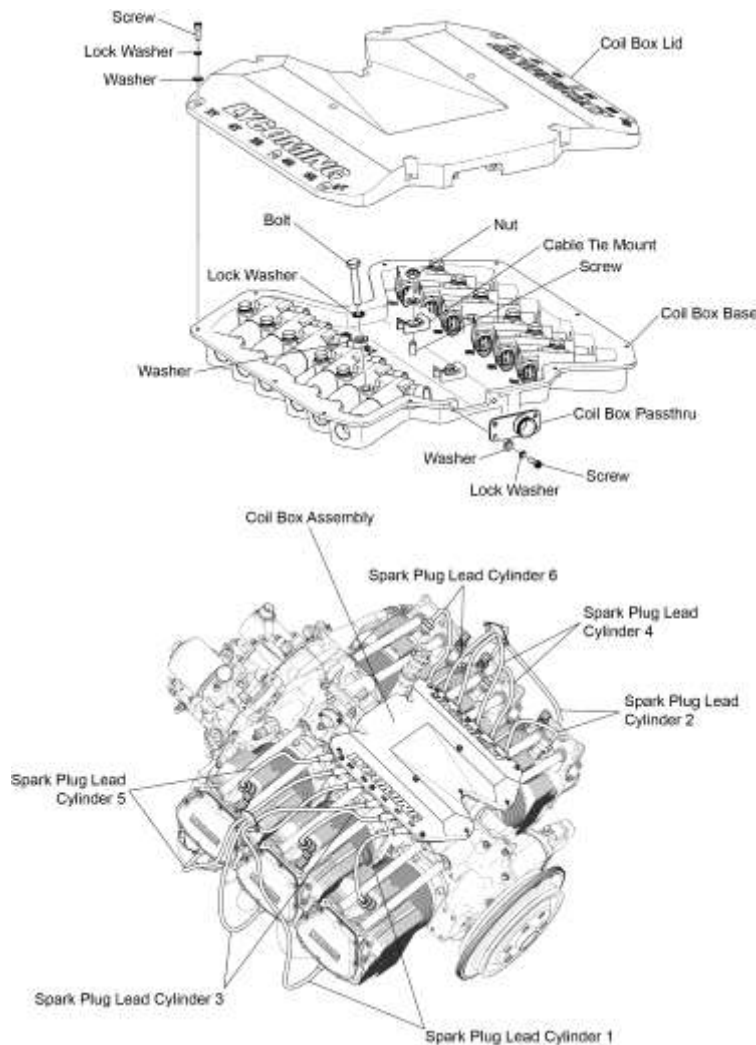
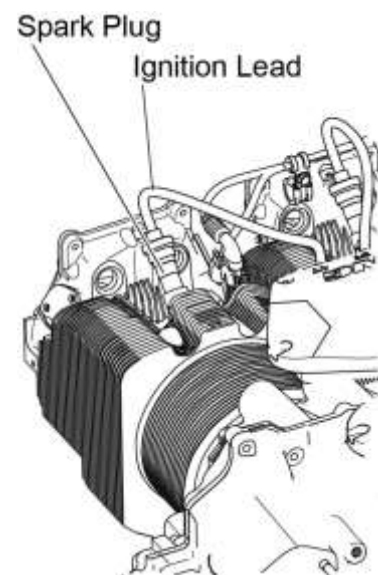
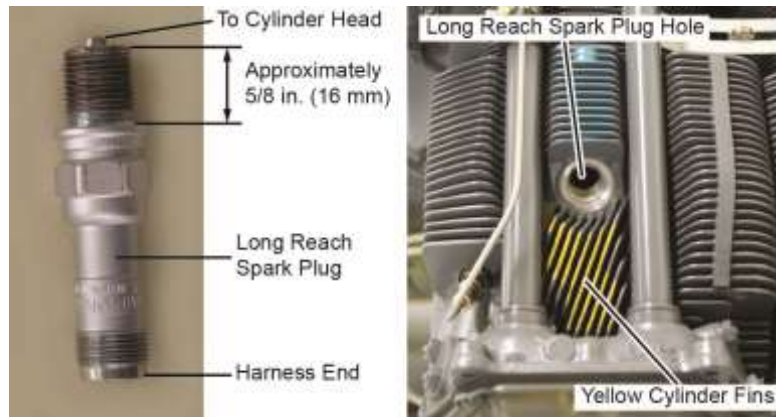

Figure 1
Figure 2
Figure 5
NOTICE: As shown in Figure 1, there are two spark plug leads (ignition leads) in each cylinder head. The 12 ignition leads (Figure 2) are identified in Table 1.
Two long reach spark plugs (Figure 5) are installed on each cylinder head (Figure 2) of the engine for a total of 12 spark plugs per engine.
NOTICE: Typically, engines with long reach spark plugs are identified by yellow paint on the cylinder fins between the spark plug hole and the rocker covers where shown in Figure 5.
C. Use the applicable sized socket on top of the spark plug and turn the socket to remove the spark plug from the engine cylinder head (Figure 2).